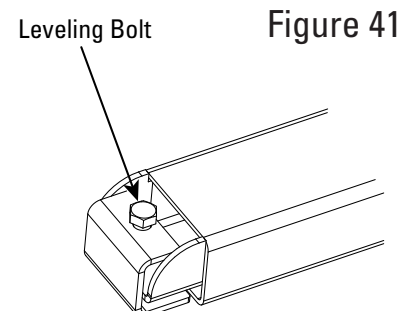

Figure 41
4. Place level on right longitudinal tube. Adjust right rear leveling bolt until longitudinal tube is level, Figure 41.
5. Place level on left longitudinal tube. Adjust left rear leveling bolt until longitudinal tube is level, Figure 41